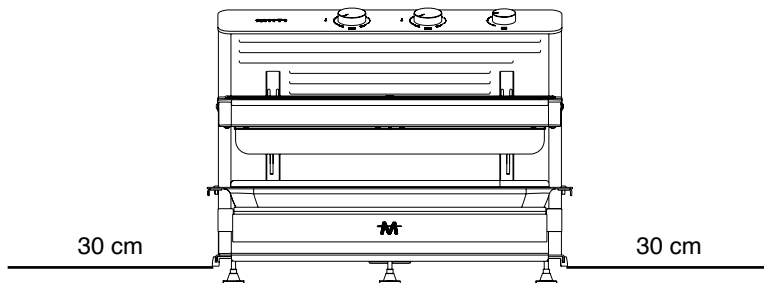

Figure 1
- 30 cm of space on the sides for MiiTi 06 model (Figure 1)